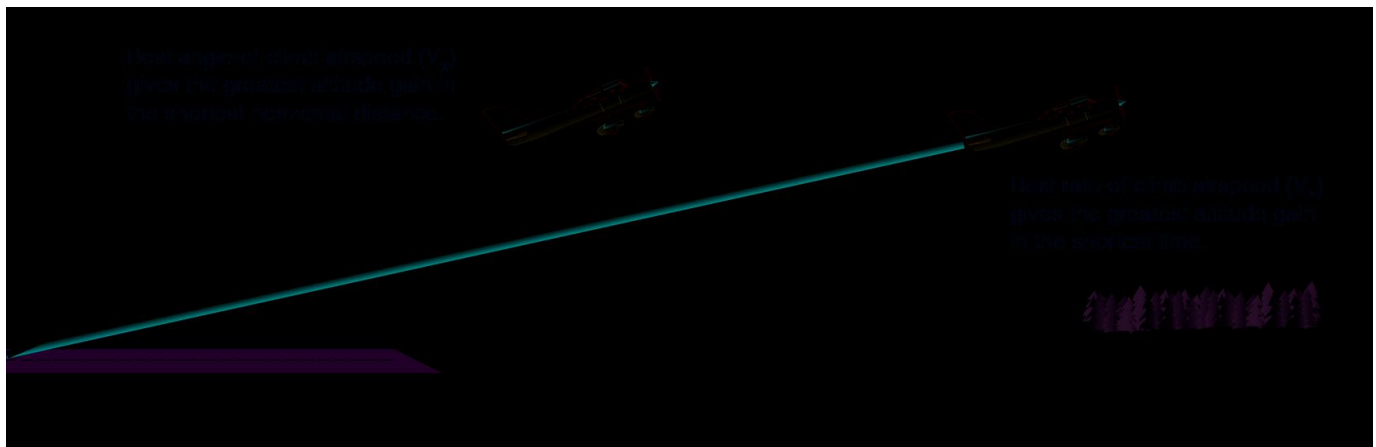

Figure 3-19. Best angle of climb verses best rate of climb.
- Best angle of climb (V_X)—performed at an airspeed that produces the most altitude gain over a given horizontal distance. The best angle of climb results in a steeper climb, although the airplane takes more time to reach the same altitude than it would at best rate of climb airspeed. The best angle of climb is used to clear obstacles, such as a strand of trees, after takeoff. *[Figure 3-19]*